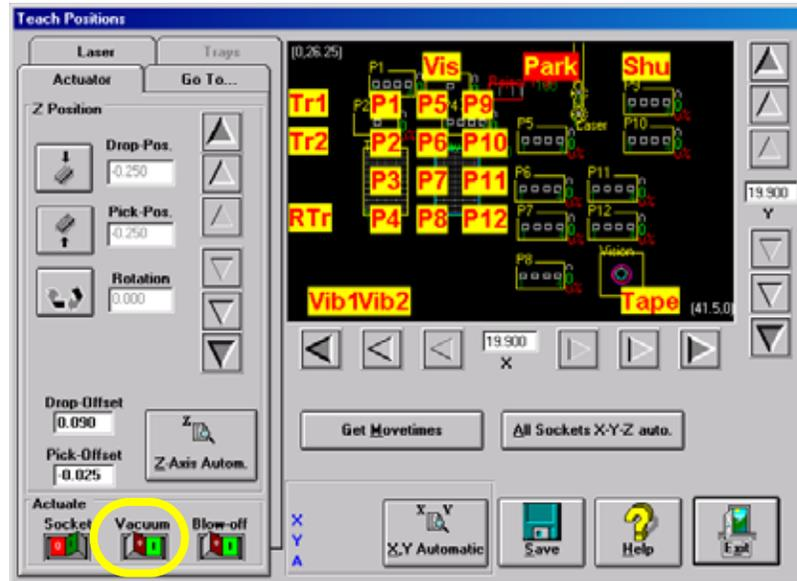

Figure 6-75—Vacuum switch is ON
- In the Gantry window, turn the Vacuum rocker switch to **ON**, as shown in *Figure 6-75*.